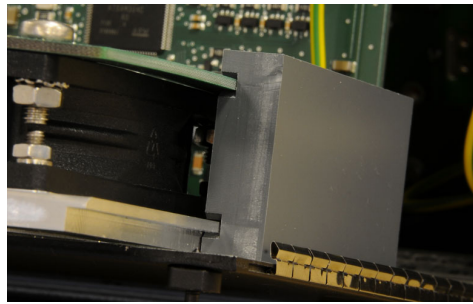
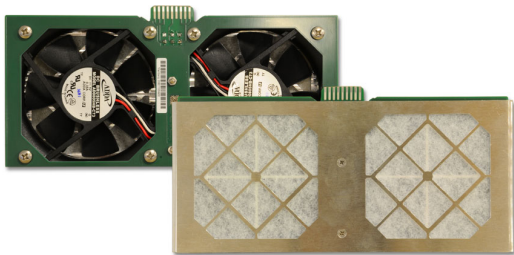
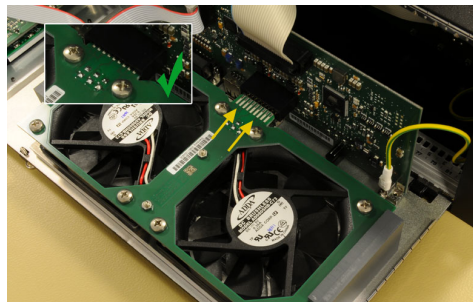

Fig. 3: Adjust the module exactly in the guide rails
Fig. 2: Compact ACM Module with two fans
Fig. 4: Lock the plug into the system
**Attention:** Please note, that the front panel position should not exceed more than 90 degrees (Fig. 2) to avoid damage on neighbourhood devices or a connection cable. Insert the ACM module into the cartridge slot provided. Pay attention to correct adjustment of the two circuit boards in the guide rails (Fig.3). The module should be easily locked with electrical connector (Fig. 4) and the front panel can be closed again. To prevent the risk of injury from electrical current and rotating fans, a switch mounted on the unit (Fig. 5) separates the cooling unit from the circuit when the front panel is opened.